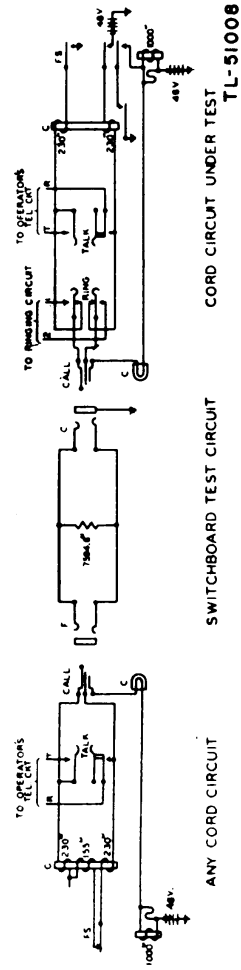

Figure 55. Nonclick test of talk-ring key, Switchboard BD-110-(), functional diagram.
(10) **NONCLICK TEST OF TALK-RING KEYS** (fig. 55). Insert the plug of any calling (front) cord into the F jack and operate its associated talk-ring key to TALK. Then insert the plug of the calling cord under test into the C jack, operate its associated talk-ring key to TALK and allow it to release unrestrained. As the talk-ring key returns to normal, faulty operation of the key under test is indicated if there is a click in the operator's telephone receiver. This may be caused by a momentary opening of the break-contact on the RING position of the key as it releases from the TALK position.